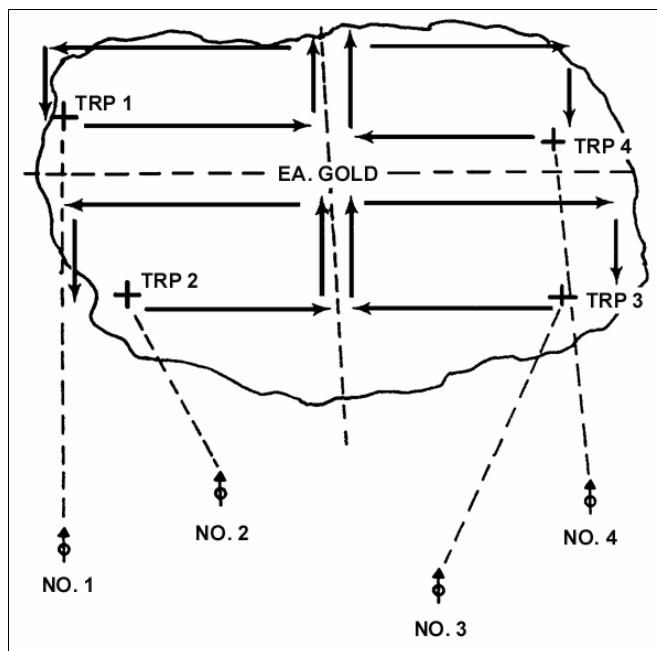

Figure 5-20. Use of massed fires, time not a factor.
- **Defense, Time Not a Factor.** Massing fires into an engagement area has advantages over other types of area fire engagements. Once TRPs are designated, gunners may fire upon them to register or rehearse the MK 19s. After the target has been subdivided and TRPs registered, the gunners traverse, search up, traverse back, and search down through their assigned parts of the target to assure full coverage of the target (Figure 5-20). The same method applies regardless of how many MK 19s are used. If four or six guns are used, the leader must subdivide the target and assign more TRPs than for a pair of MK 19s. An example of a fire command for this situation follows: